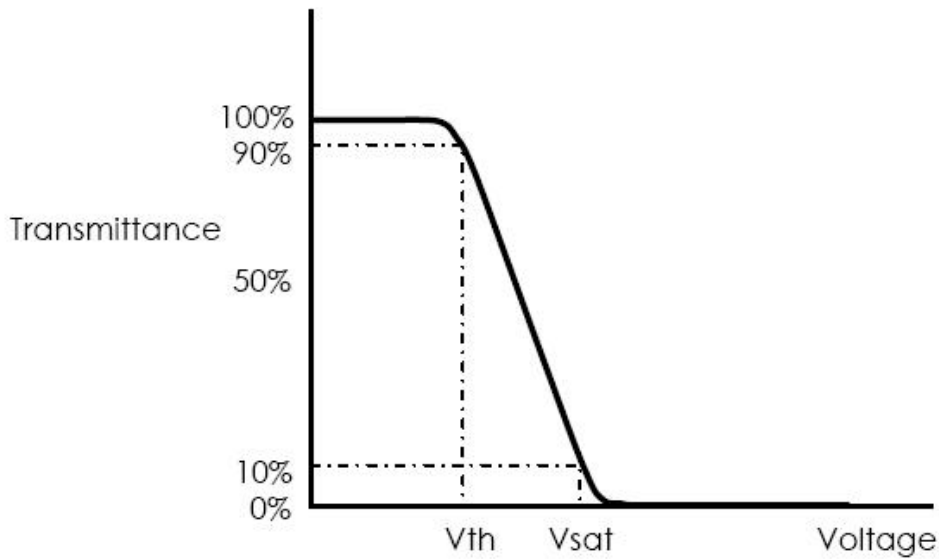

Figure 3. The definition of V_{th} & V_{sat}
- 6. The electro-optical response time measurements shall be made as FIGURE 3 shown in Appendix by switching the “data” input signal ON and OFF. The times needed for the luminance to change from 10% to 90% is Tr, and 90% to 10% is Td